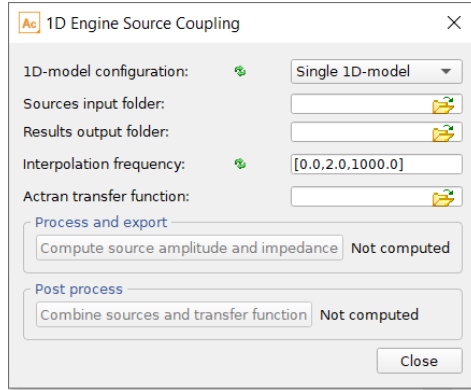

Figure 23.32: Single configuration window
- A single configuration method that can only provide the amplitude of the source without reflection factor, as shown in Figure 23.32. In this configuration, the source files must all be provided in a single folder. This method is valid both for crank angle or source-impedance data inputs.